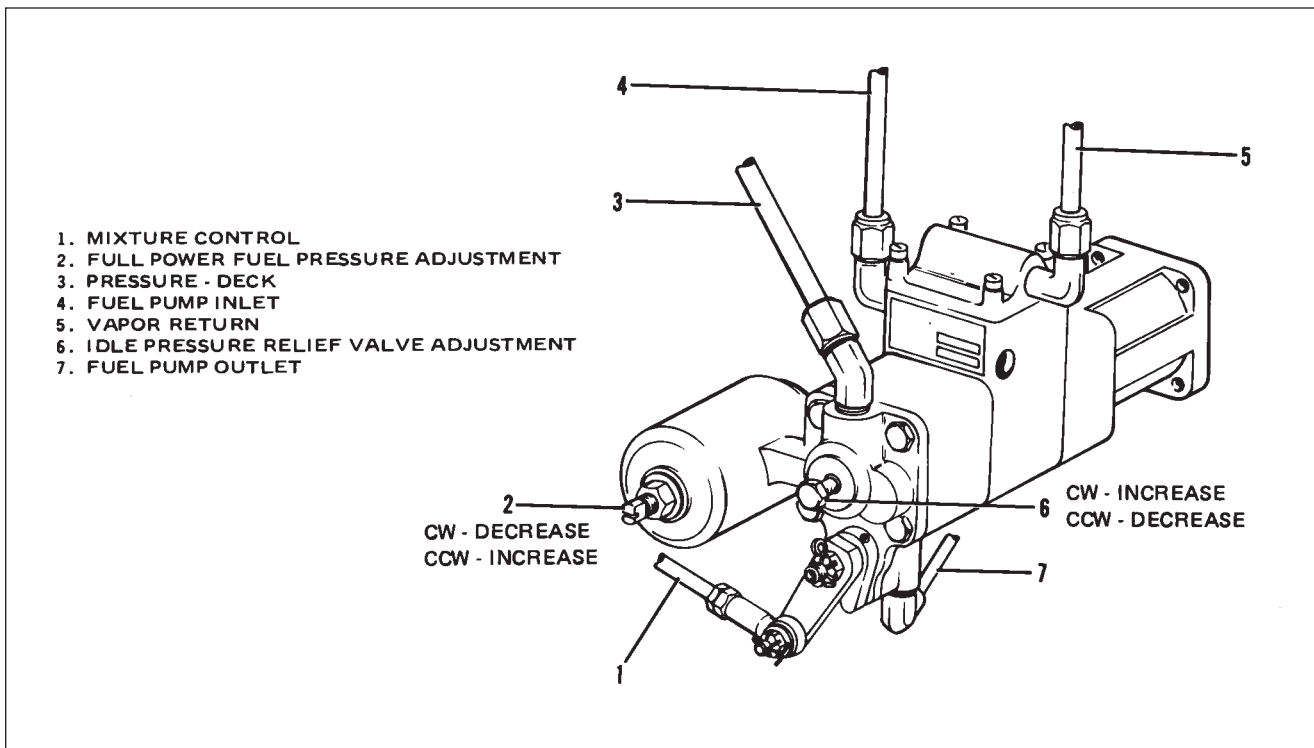

Figure 73-5. Sectional View of Altitude Compensating Fuel Pump Assembly
- C. While maintaining 700 ± 25 RPM, set the idle fuel pressure at 6.5 ± 0.25 psi by adjusting the idle pump adjustment screw (refer to Figure 73-5, item 6); clockwise adjustment increases pressure; counterclockwise adjustment decreases pressure.
7. Check and Adjustment for Full Power Performance: (Refer to Figure 73-5.)
- C. If adjustment is required, loosen the jam nut on the adjusting screw located on the aneroid housing of the fuel pump. (Refer to Figure 73-5, item 2.) Clockwise adjustment decreases fuel flow reading; counterclockwise adjustment increases fuel flow reading; one full turn will cause a 1.0 to 1.5 gph change. Use CAUTION when loosening and tightening the jam nut so as not to change settings or over torque the jam nut.